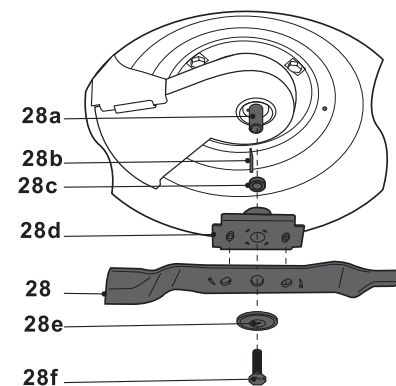

Fig. 23
1. Keep the underbody and cutting device (28) clean and free of debris. Remove clippings from the rear discharge chute (30).
3. Keep the cutting device (28) sharp to ensure a good cutting performance. Replace a worn or damaged cutting device with a new one of the same type or have it sharpened by a qualified specialist.
4. Loosen the hex bolt (28f) anti-clockwise using a suitable wrench and remove it together with the locking flange (28e), cutting device (28) (Fig. 23).